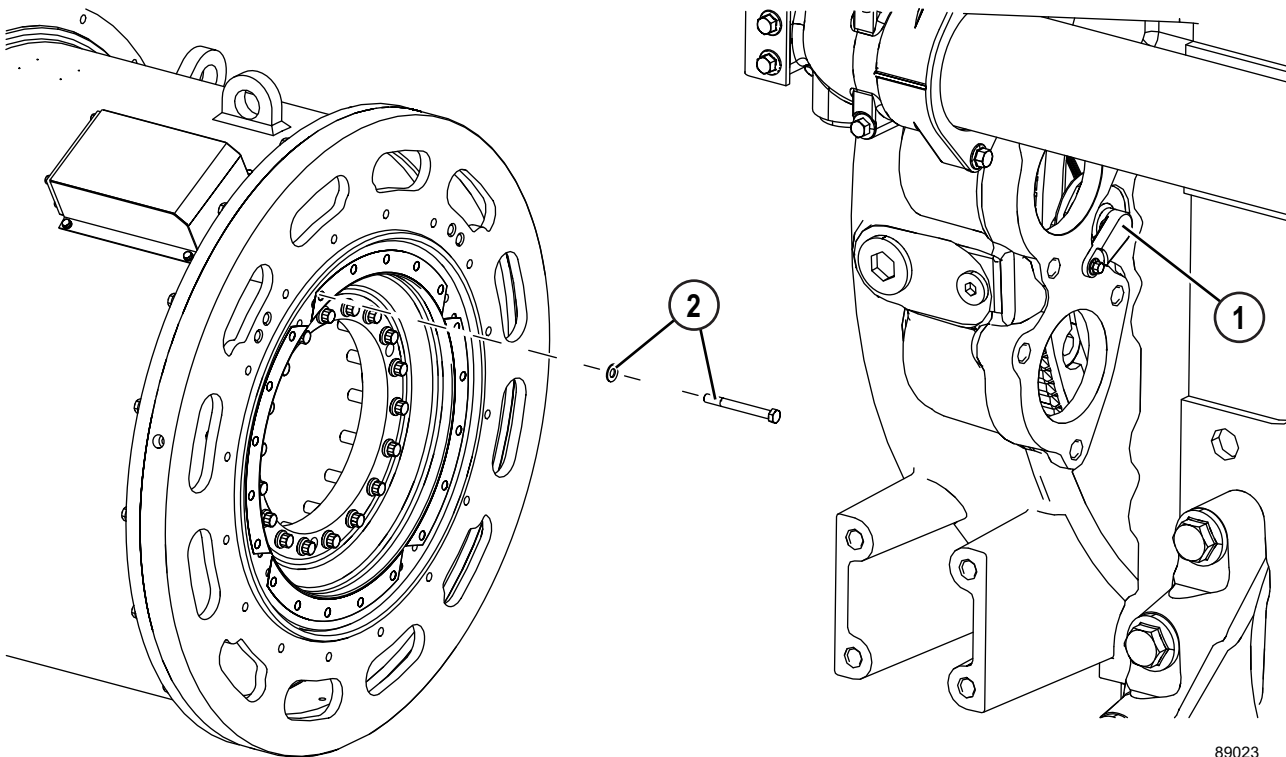

FIGURE 50-26. ENGINE DRIVE RING/ALTERNATOR ROTOR CONNECTION
4. Remove access cover (1, Figure 50-26) on either side of the flywheel housing. Reach through the access opening to remove 20 capscrews and hardened flat washers (2) that join engine flexplate to the alternator rotor adapter.